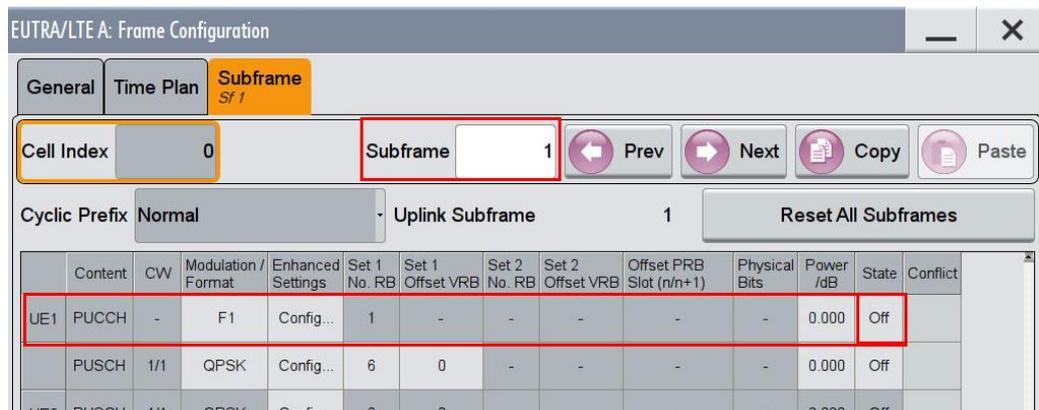

Fig. 3-138: In the second configurable subframe (subframe #1) the PUCCH is not transmitted (state Off)
- Make sure that the PUCCH in the second configurable subframe is not transmitted. (State **Off**) (Fig. 3-138)